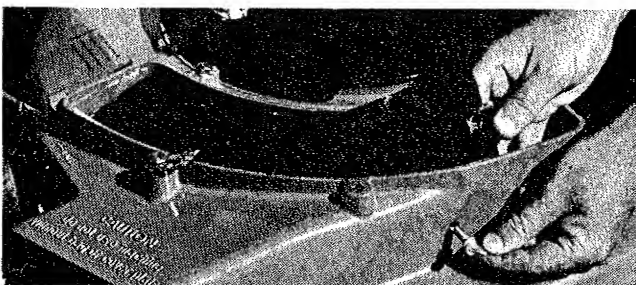
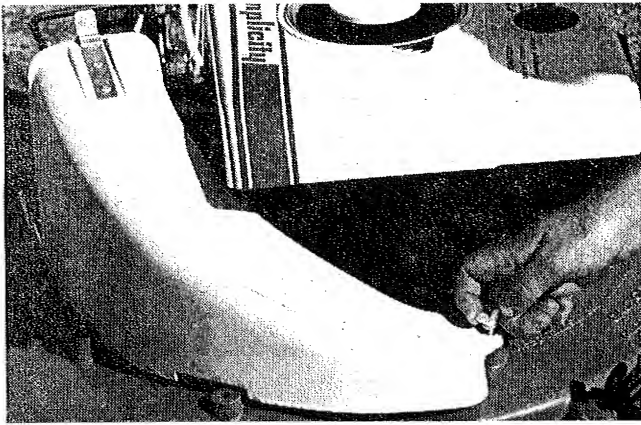
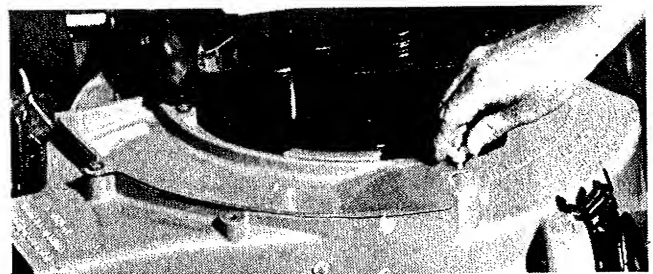

FIGURE 13
FIGURE 14
FIGURE 19
3. Install the grass deflector, placing the slotted tab under the outer spring bolt. Align the deflector hole with the hole at the front of the mower housing and secure thumb screw, finger tight. (See Figure 13). Position the grass catcher housing over the opening in the mower deck and slide the slotted tabs under the spring bolts. Secure with thumb screw, finger tight. (See Figure 14).
**Mulching:** As the mowing season progresses and the grass becomes less juicy, the grass clippings may be left on the lawn without harming lawn appearance or new lawn growth. To accomplish this, use your Simplicity as a mulcher. To use the mower as a mulcher, the grass deflector plate (See Figure 13) and mower deck cover (See Figure 19) should be installed. The fine, evenly spread clippings will add valuable nutrients to the soil